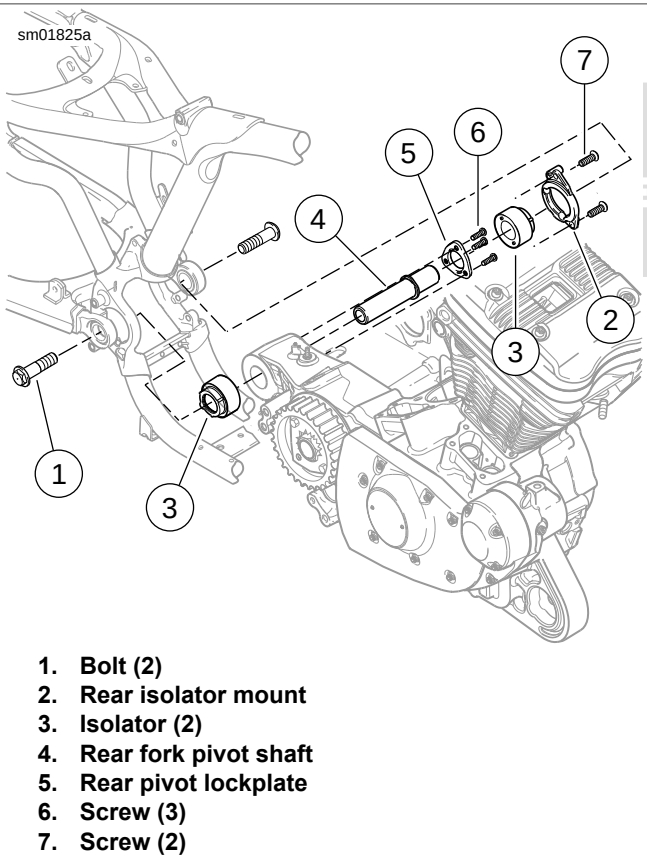

Figure 2-173. Rear Engine Mount/Isolator: Typical (XL Models)
10. See Figure 2-173. Remove rear fork pivot bolts (1).
17. See Figure 2-173. Remove two screws (7) securing rear isolator mount (2) to left side of frame. Remove isolator mount and left isolator (3).
18. Remove three screws (6) securing rear pivot lockplate (5) to rear of engine case. Remove lockplate and rear fork pivot shaft (4).
- See Figure 2-173. Install **new** right rear isolator (3) into frame, lining up tabs on isolator with slots in frame. Slide rear end of engine to the right until engine mounting boss on rear of crankcase contacts right isolator.
- Slide rear fork pivot shaft (4) through engine mounting boss.
11. See Figure 2-173. Slide rear fork forward into position. Install rear fork pivot/engine mount bolts (1). Tighten to 60-70 ft-lbs (81.4-95.0 Nm). Remove vehicle tiedown straps supporting rear fork.